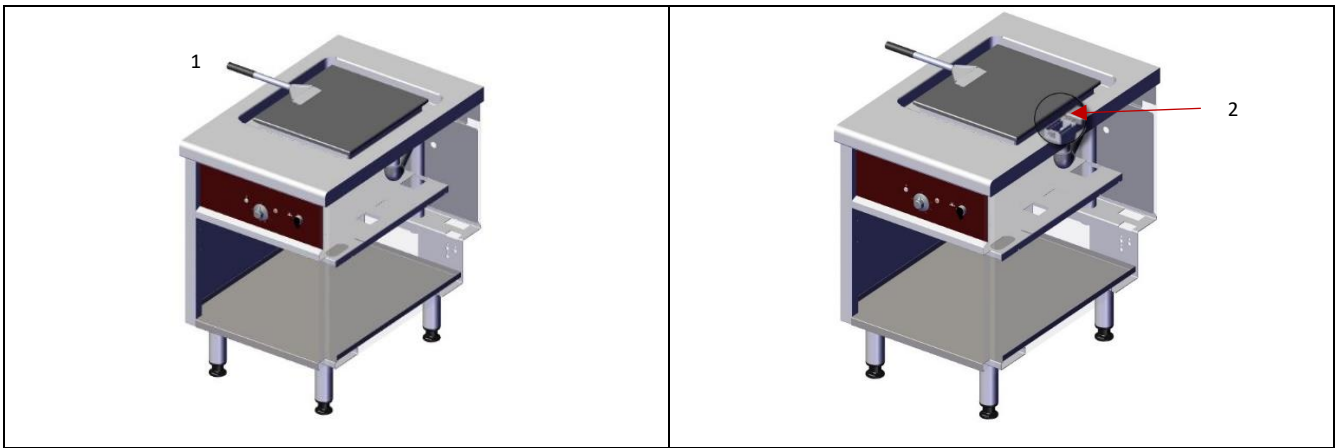

Fig8
- To scrape the plate, hold the scraper flat (Fig. 8 Item 1).
- Discharge the waste down the drain tube (Fig. 8 Item 4).